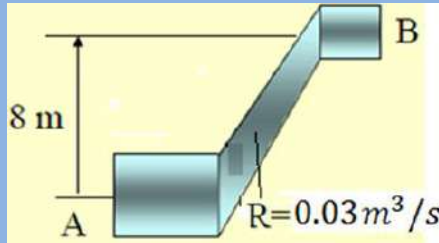

figure 2
**Q3/** From figure 2, water flows through the pipe the absolute pressure at point A is 200 kPa, the lower section of pipe has a radius of 8 cm and the upper section narrows to a radius of 5cm. find the velocities of the stream at points A and B.